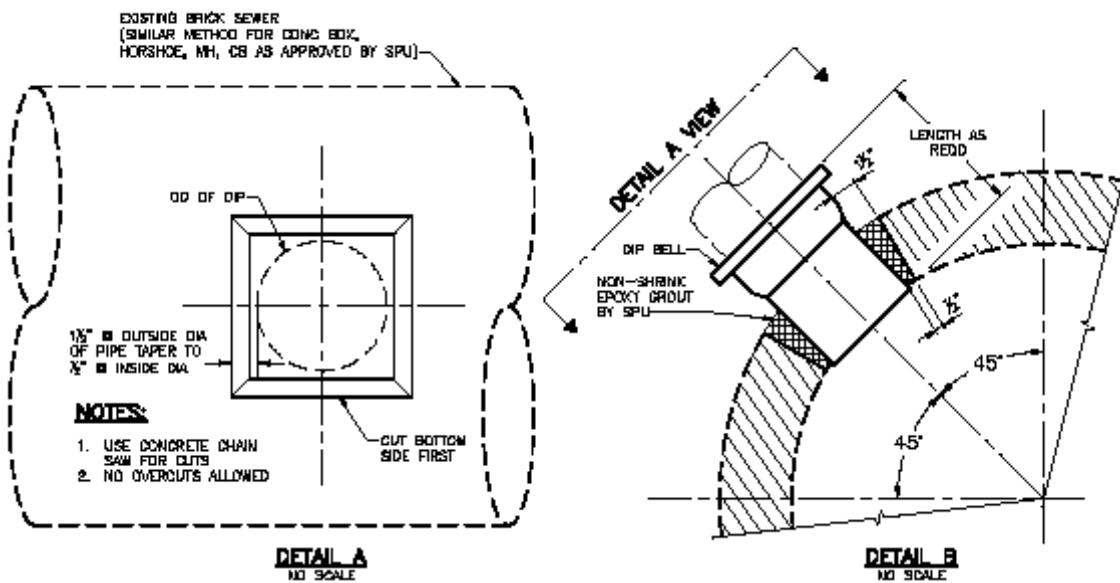

Figure 5 Connecting to Brick Pipe
See Figure 5. For core taps larger than 12-inch diameter, also see Section 11 Non-Standard Connections That SPU May Approve.
3. Cut in a new square. See Details A and B of Figure 5.